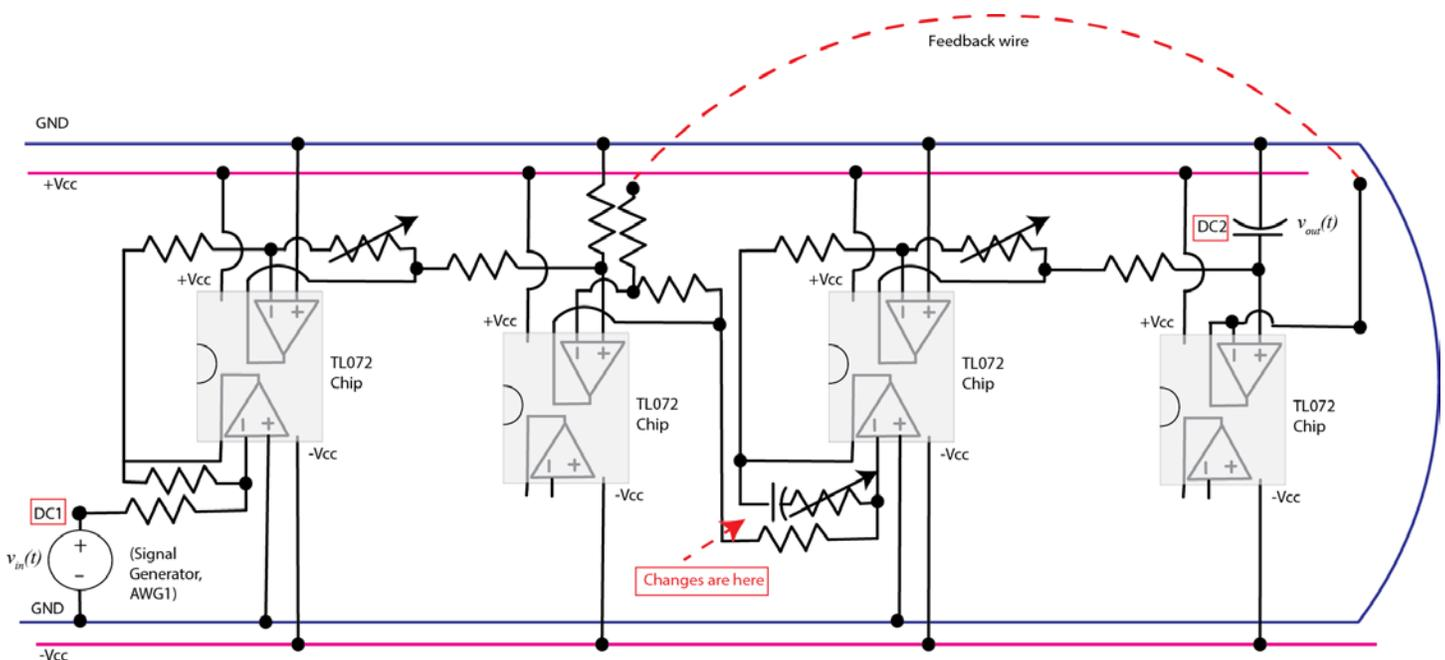

Figure 11. Proportional plus integral controller.
1) Modify the proportional controller circuit by adding a $1 \mu\text{f}$ capacitor and variable resistor, as shown in Figure 11. Your circuit at the end of this part should look something like that in Figure 12.